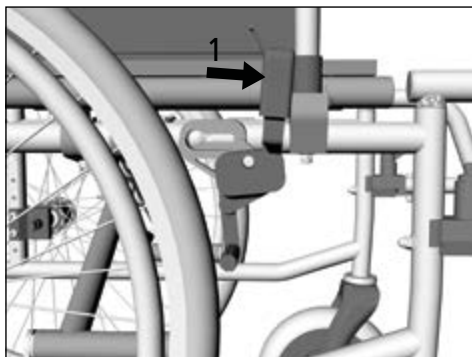

Fig.12
1. Press the brake lever forwards so that the brake blocks the wheel (1, Fig. 12).